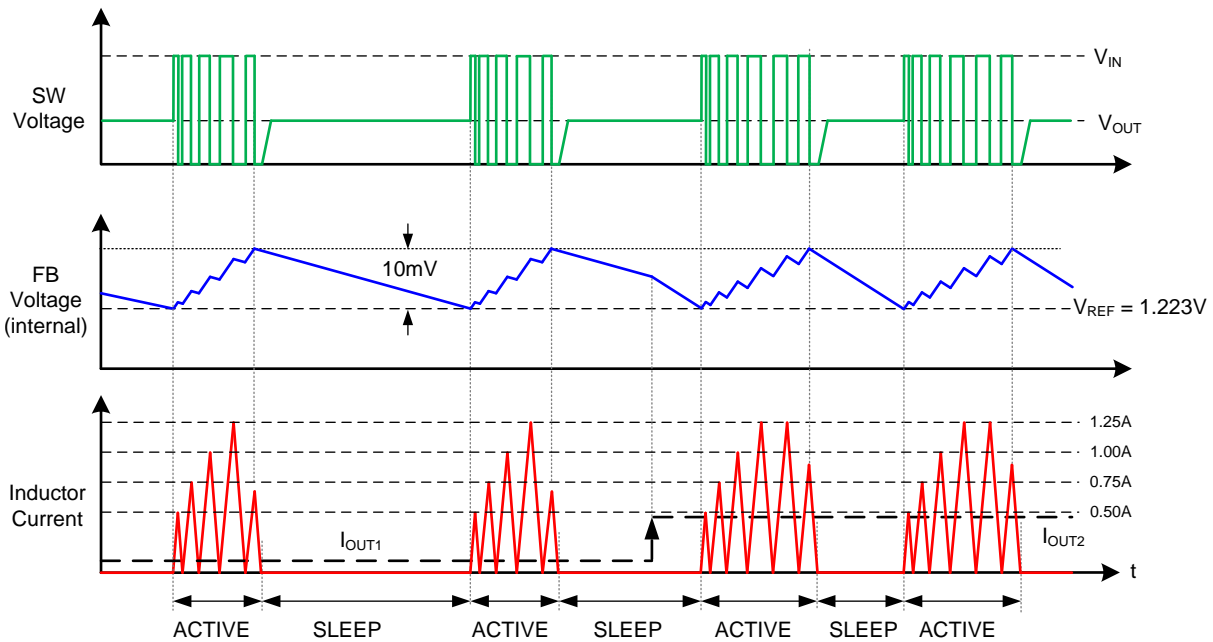

FIG 42. PFM Mode With Modulated I_{LIM}, Output Voltage and Inductor Current Representative Waveforms
One of the supported ILIM settings enables a function that modulates the peak current threshold levels during the first three switching cycles of each active period as illustrated in Figure 42. This function improves efficiency under most application conditions at the expense of slightly degraded load transient response.
- (1) For this current limit threshold selection, the ILIM pin may also be left open instead of using a 100-k Ω or greater resistor.
- (2) This I_{LIM} setting enables a function that modulates the I_{LIM} levels during the first three switching cycles as illustrated in 图 42.